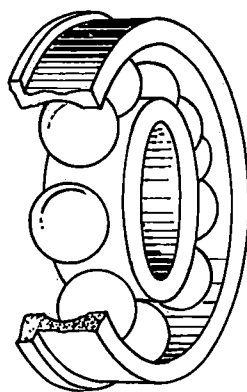

Figure 4A. Bearing in good condition.
1. Inspect your bearing by first comparing it to the figures 4A and 4B.